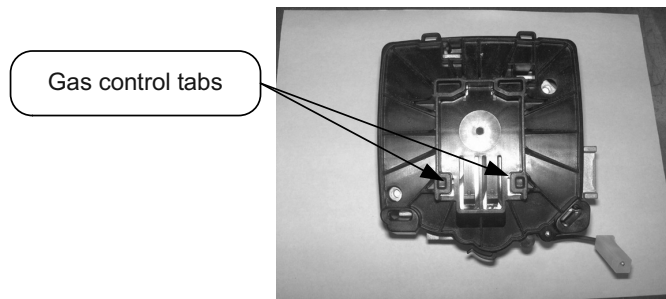

Figure 36
Step 3. Align slots located on the thermowell flange with tabs located on the back of the gas control (see Figure 36).